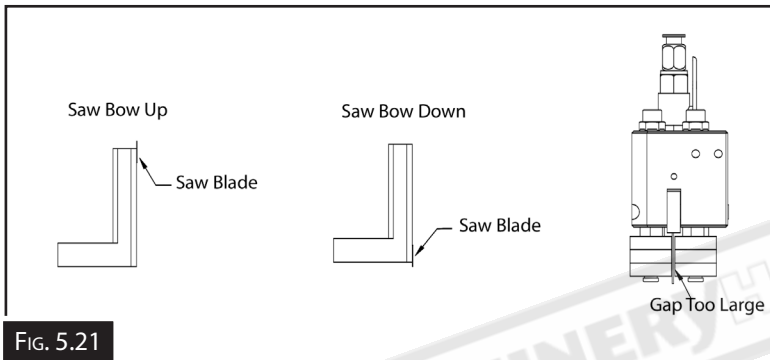

FIG. 5.21
2. Inspect the blade guides to see if there is a gap between the bearings and the blade (Fig.5.21)